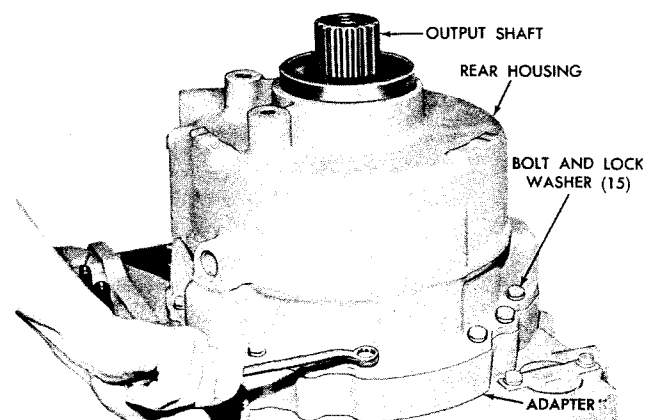

Fig. 5-40. Removing rear housing bolts (-3 overdrive model)
(1) Remove 15 bolts and lockwashers which retain the rear housing (fig. 5-40).